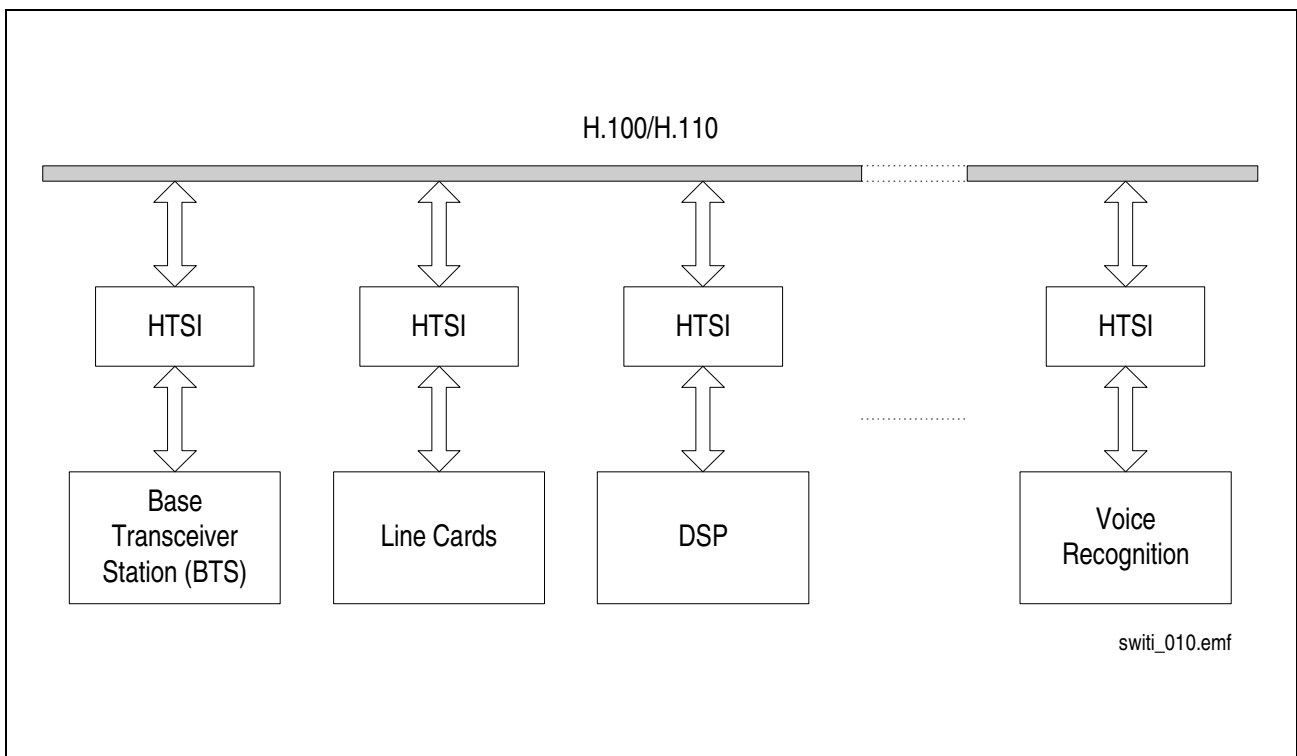

Figure 4 CT Application
In Computer Telephony (CT) environment, resource sharing is accomplished by passing data back and forth through the H.100/H.110 bus. **Figure 4** shows the example.